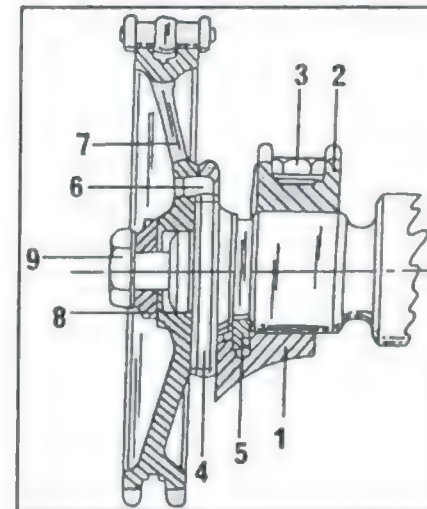

Fig. 1.74 - Sectional view of the camshaft end of the cylinder head.
- Remove the locating collar from the cylinder head. Fig. 1.74 shows a sectional view of the cylinder head at the camshaft end with the location of the collar. The collar serves to locate the camshaft in axial direction.